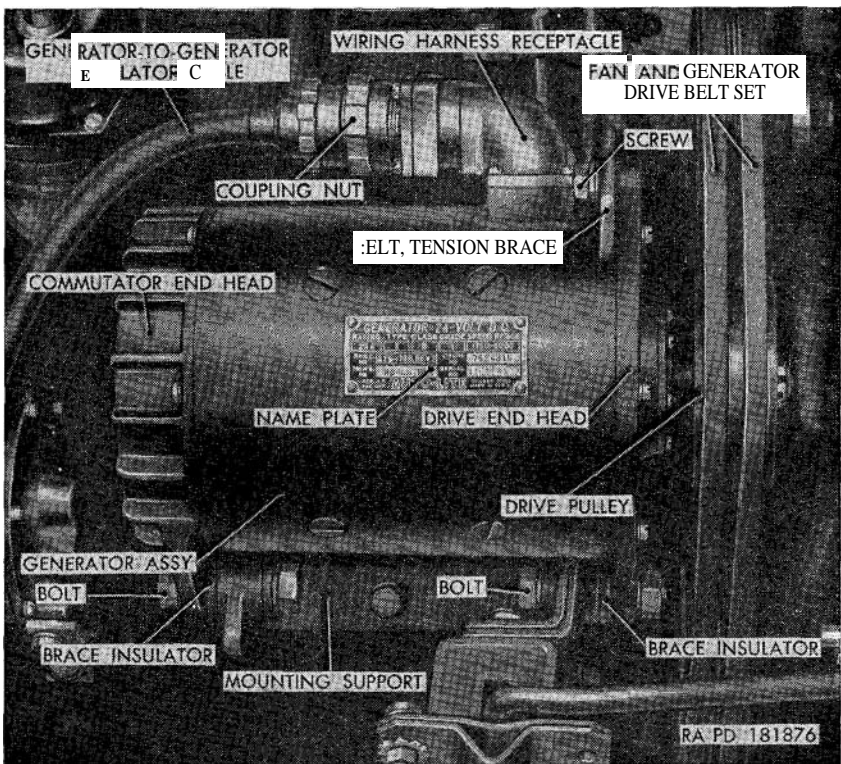
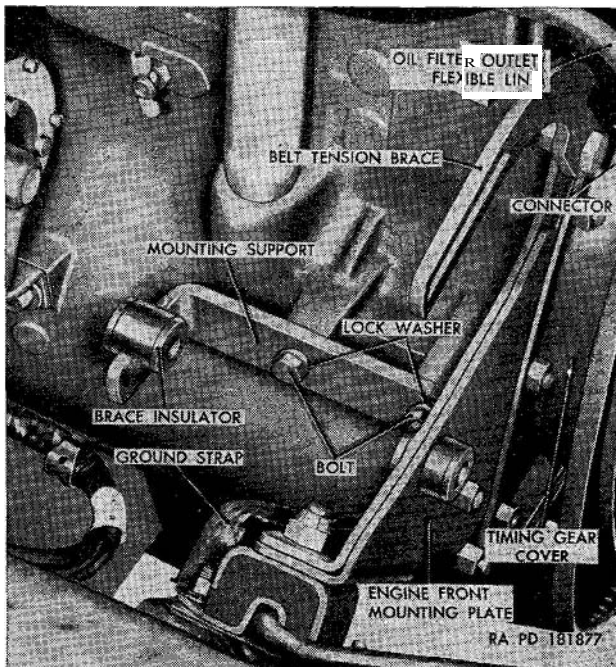

Figure 90. Generator assembly—installed.
Figure 91. Generator mounting support—installed.
*a. Description.* The 24-volt, single-wire, waterproof generating system (figs. 88 and 89) consists of the generator and generator regulator assemblies, connecting cables, and batteries. Refer to paragraph 162 for information relative to the batteries. The system functions to keep the batteries fully charged. A two-brush, 25 ampere, 24-volt generator (fig. 90), mounted on the right side of the engine, is driven in conjunction with the water pump by a matched pair of V-belts from the engine crankshaft. A belt tension brace provides for drive belt adjustment. The generator regulator (figs. 92 and 94) assembly consists of three units; the voltage regulator, which controls the generator output voltage to prevent overcharging the batteries; the current regulator, which prevents overloading the generator ; and the circuit breaker, which opens to prevent discharging the batteries when the generator output falls below the level required to charge the batteries.
- (2) Unscrew the coupling nut securing the generator-to-generator regulator cable (fig. 90) to the wiring harness receptacle. Pull the cable plug from the receptacle.
- (3) Remove the lockwasher screw and lockwasher securing the belt tension brace to the drive end head. Swing the generator toward the engine as far as it will go, and remove the two fan and generator drive belts from the drive pulley. If the belt tension brace is to be removed, remove the bolt, nut, and lockwasher securing the brace inner end to the engine front mounting plate, and remove the brace.
- (8) Inspect the two brace insulators (fig. 91) for damaged or deteriorated condition. One insulator is mounted in the mounting support, while the other is mounted in the engine front mounting plate. If the insulators are damaged, remove them
- (9) Remove the two bolts and lockwashers securing the mounting support to the cylinder block and remove the support.
- (1) Place the mounting support (fig. 91) in position on the right side of the cylinder block. Secure the support to the block with two  $\frac{3}{8}$ -inch lockwashers and  $\frac{3}{8} \times \frac{7}{8}$  bolts.
- (2) Install the brace insulators if removed, one in the mounting support and one in the engine front mounting plate.
- (3) Install the  $\frac{1}{8} \times \frac{7}{8}$  woodruff key in the generator armature shaft keyway. Aline the keyway in the drive pulley (fig. 90) bore with the key in the shaft and install the pulley (long end of hub leading) on the shaft. Shove the pulley onto the shaft until the pulley inner end rests against the shaft shoulder. Install one  $\frac{1}{2}$ -inch lockwasher on shaft against pulley outer end and secure pulley to shaft with one  $\frac{1}{2}$ -inch castellated nut. Tighten nut as much as possible and then aline shaft cotter pin hole with nut serrations. Lock the nut to the shaft with a new  $\frac{1}{2} \times 1$  cotter pin. Bend the cotter pin ends over.
- (4) If the belt tension brace was removed, secure it to the engine front mounting plate with a  $\frac{3}{8} \times \frac{7}{8}$  bolt,  $\frac{3}{8}$ -inch lockwasher, and  $\frac{1}{2}$ -inch nut. Position brace so its curved end faces down.
- (5) Lower the generator assembly into the engine compartment and position its commutator and drive end heads on the brace insulators, mounted in the mounting support and engine front mounting plate.
- (6) Start one  $\frac{7}{16} \times 2\frac{1}{4}$  bolt with  $\frac{7}{32}$ -inch ID flat washer through the mounting support brace insulator. Place one  $\frac{1}{2}$ -inch ID flat washer between the generator insulator and commutator end head. Push the bolt through the flat washer and commutator end head. Place one  $\frac{7}{16}$ -inch external-teeth lockwasher over the bolt end and install the  $\frac{7}{16}$ -inch nut, but do not tighten.
- (7) Start one  $\frac{7}{16} \times 2\frac{1}{4}$  bolt with  $\frac{7}{32}$ -inch ID flat washer through the engine front mounting plate brace insulator. Place one  $\frac{1}{2}$ -inch ID flat washer between the generator insulator and drive end head, and push the bolt through the washer and drive end head. Place one  $\frac{7}{16}$ -inch external-teeth lockwasher over the bolt end and install a  $\frac{7}{16}$ -inch nut, but do not tighten.
- (8) Position the fan and generator drive belts over the drive pulley and pull the generator away from the engine until belts are snug in place in all pulleys. Place the  $\frac{3}{8}$ -inch flat washer over the  $\frac{1}{2} \times 1$  lockwasher screw and insert screw through the belt tension brace slot and into the generator drive end head. Start screw into drive end head threads, but do not tighten.
- (9) Adjust belt tension (par. 130a).
- (10) Tighten the nuts and bolts securing the generator to the mounting support and engine front mounting plate.
- (11) Insert the generator-to-generator regulator cable plug into the wiring harness receptacle, making sure to aline the plug